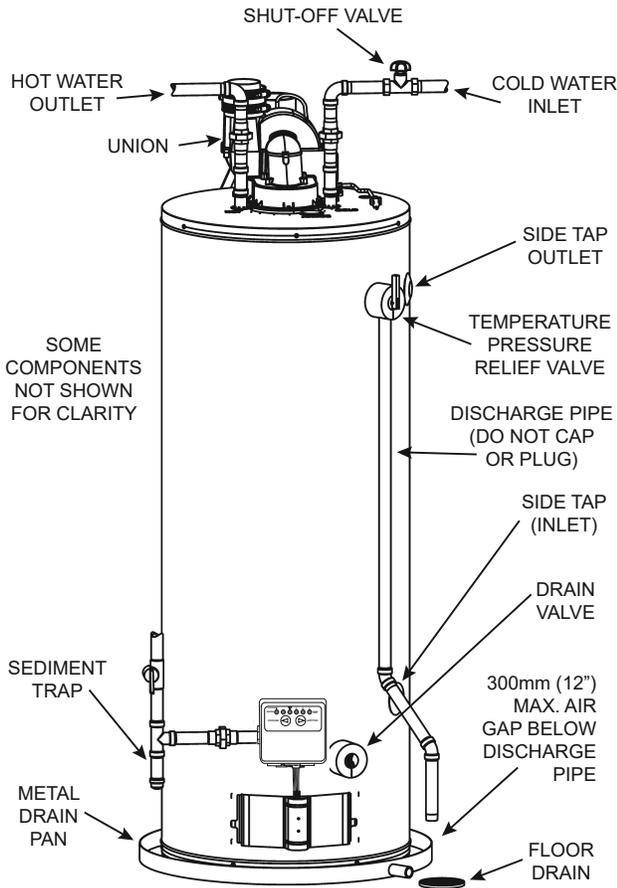

Figure 16.
1. Close the water heater drain valve by turning handle to the right (clockwise). The drain valve is on the lower front of water heater (see Figure 16).